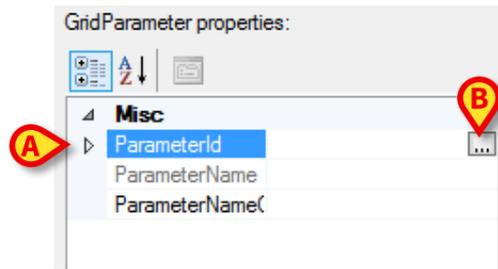
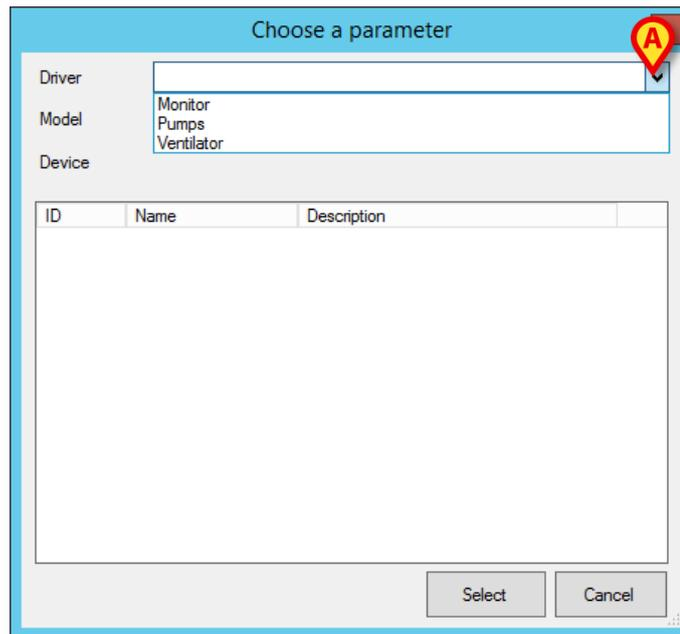
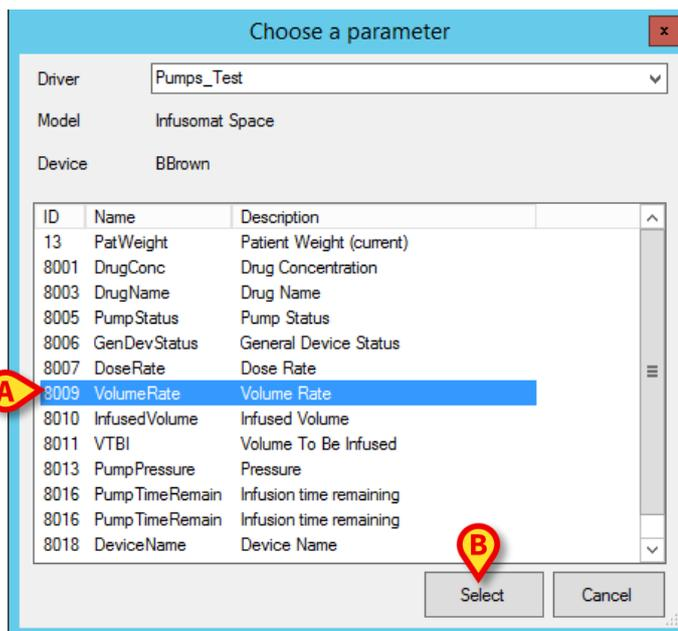
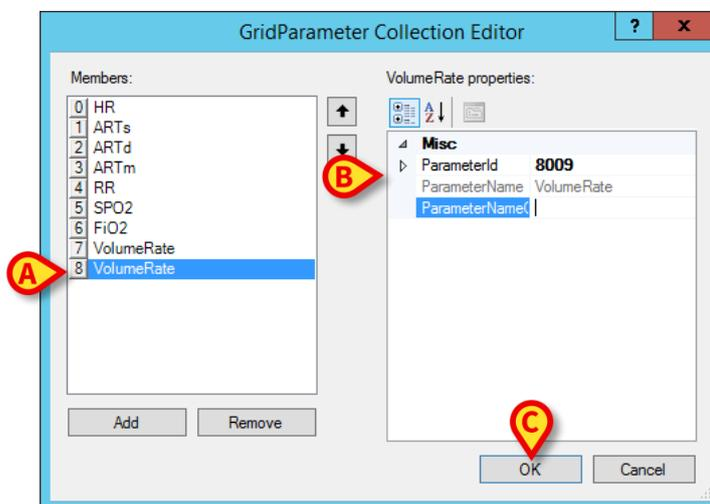

Fig 48
Fig 49
Fig 50
Fig 51
6. Click the ParameterId row (Fig 48 **A**). A button is displayed on the right (Fig 48 **B**).
7. Click the button indicated in Fig 48 B. The following window opens (Fig 49).
8. Click the button indicated in Fig 49 A to open the drop down “Driver” list. Here select the relevant item. The window will be populated with the list of parameters relating to the selected item (Fig 50).
9. Click the row corresponding to the wanted parameter on the list (Fig 50 **A**). The row will be highlighted.
10. Click **Select** (Fig 50 **B**). The selected parameter is this way added to the “Members” list on the GridParameter collection editor window (Fig 51 **A**). The selected parameter properties are displayed on the right (Fig 51 **B**).
11. Click **OK** to complete the procedure (Fig 51 **C**).